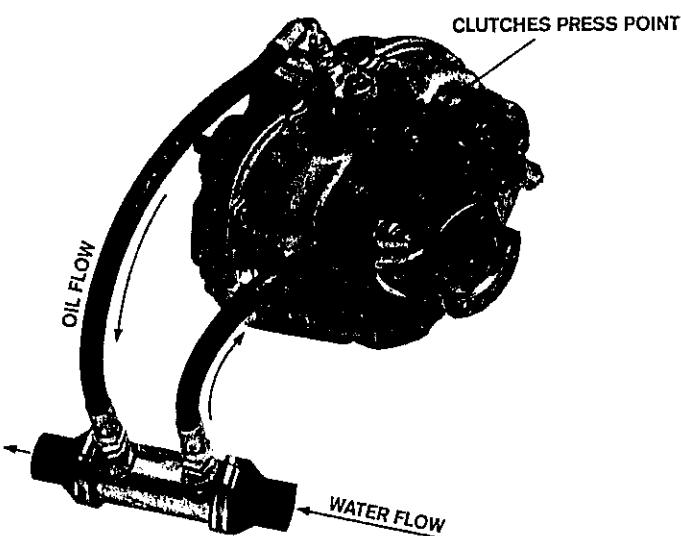

Fig. 8. Oil cooler connections
**CAUTION:** Failure to correctly install an oil cooler into the lubrication circuit can result in damage to the gearbox see Fig. 8 for correct circuit. After a gearbox failure it is extremely important to flush cooler and hoses completely to remove any contamination. Failure to do so could result in the new/repaired gearbox failing prematurely.